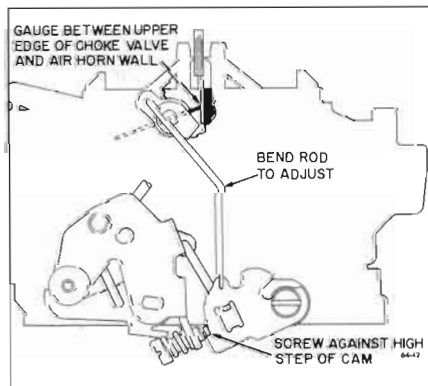

Figure 64-42—Fast Idle Cam Adjustment
13. Remove both main metering jets from pump side of main body. See Figure 64-42. Remove power valve and gasket.
1. Fast Idle Cam Adjustment. With fast idle screw in normal fast idle position, place screw on second step of fast idle cam against shoulder of highest step. Check clearance between upper edge of choke valve and air horn dividing wall using specified gauge. See Figure 64-42.